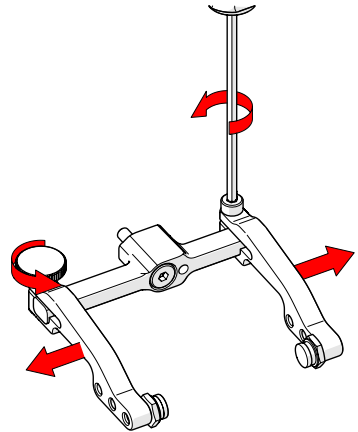

Fig. 180 - Remove probe holder arms
3. Loosen the probe holder arm adjustment knob and the arm clamp screw. Slide the probe holder arms off the yoke (Fig. 180).